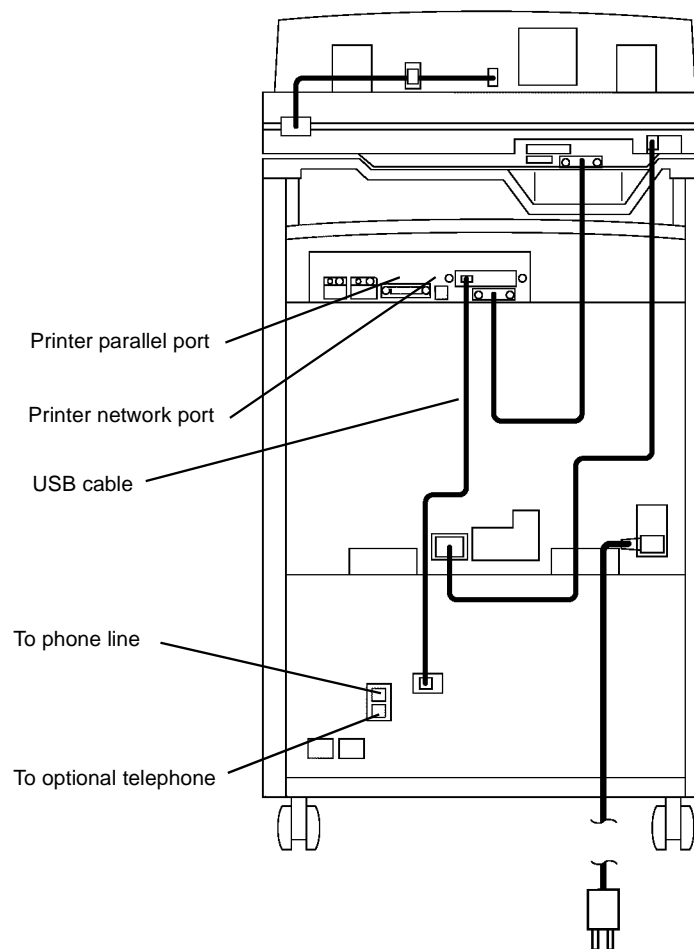

**Figure 12 Installing Fax Cables**
1. Install the Fax cables (Figure 12).